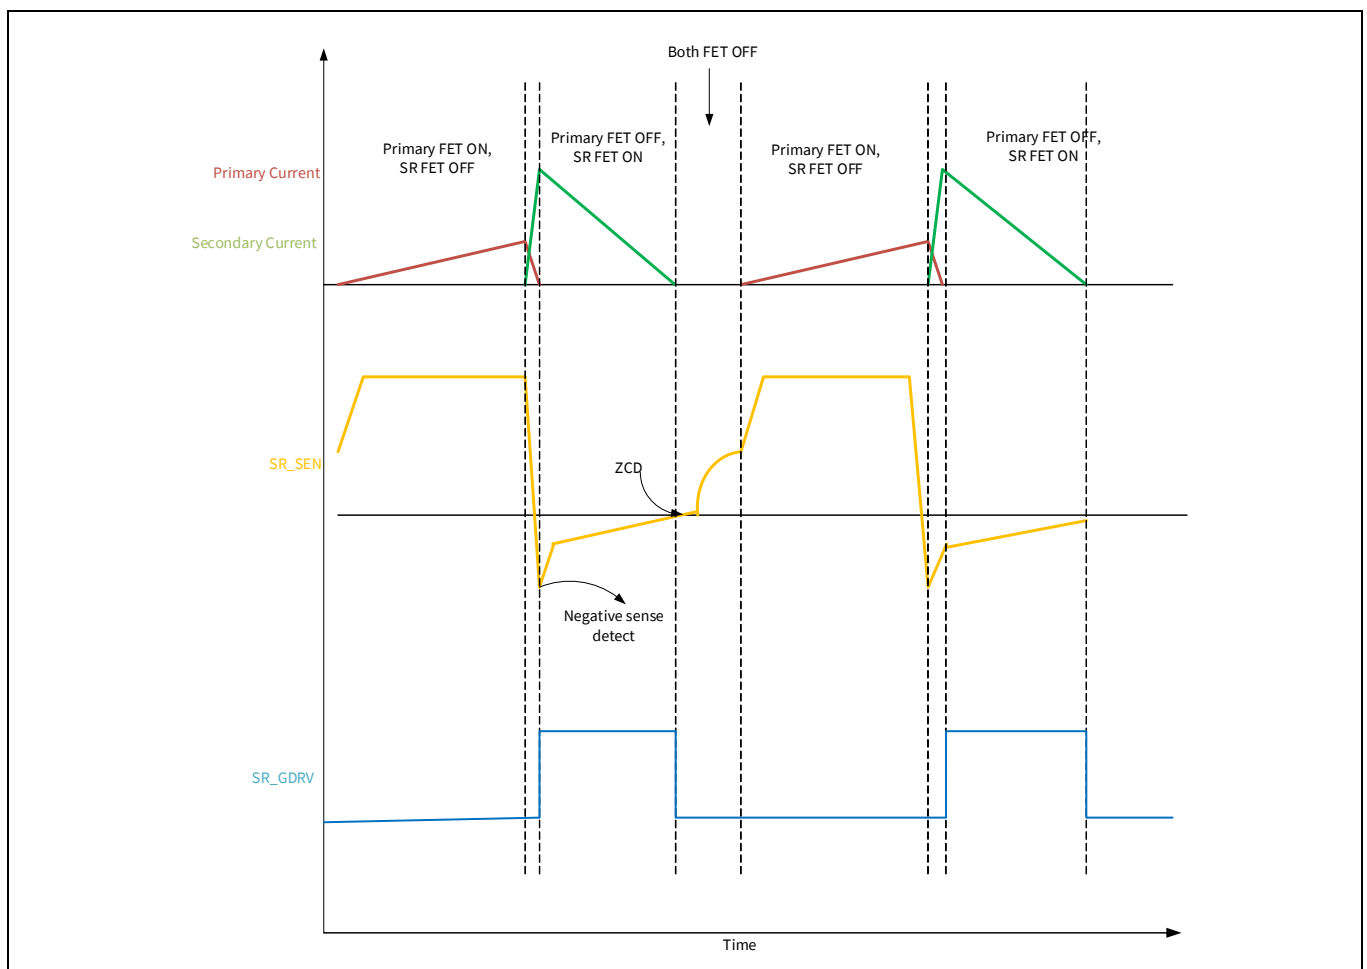
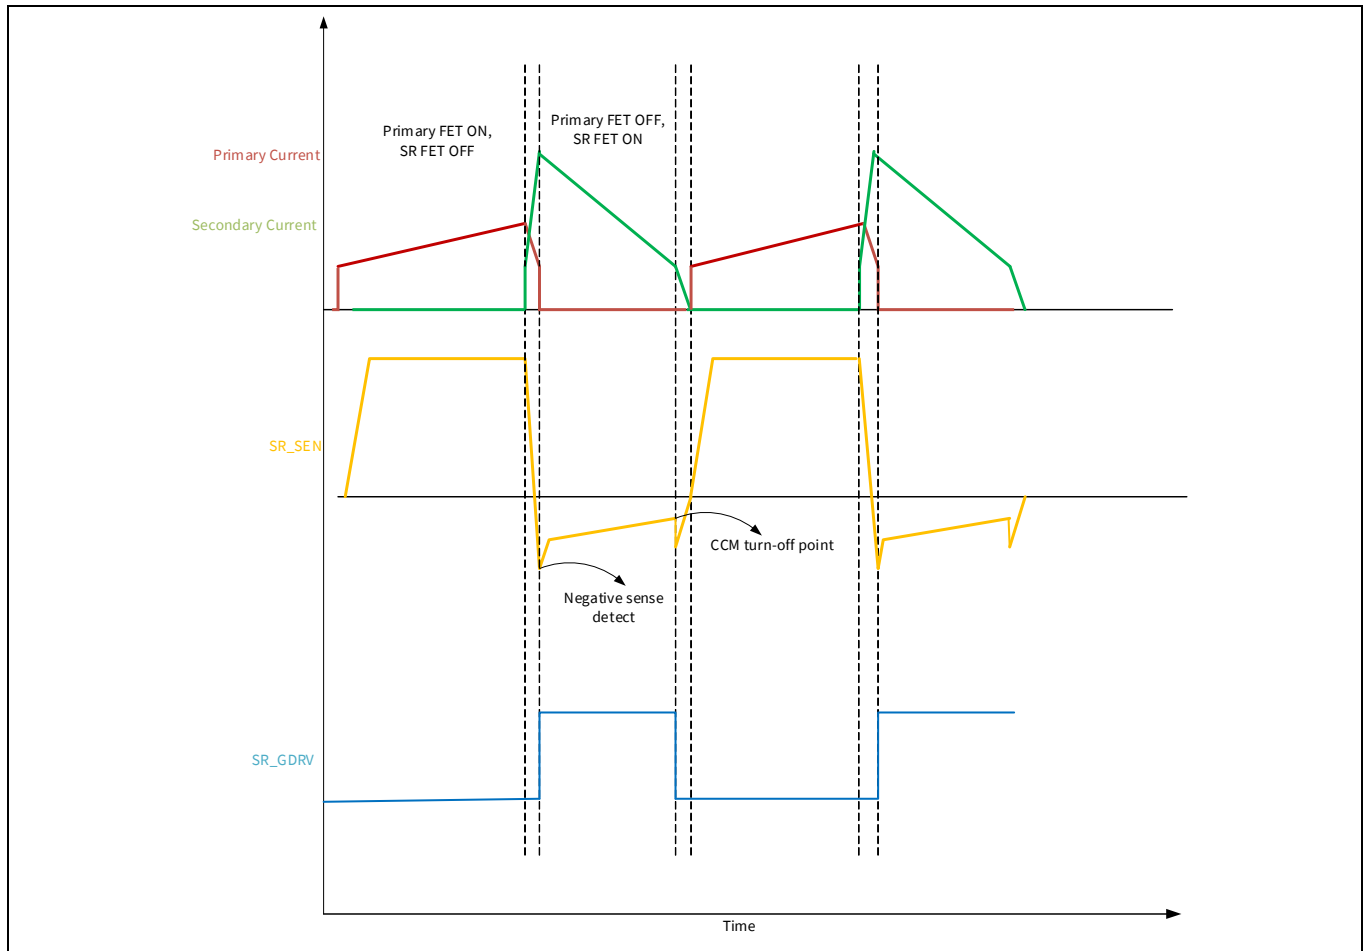

Figure 3 SR_SEN and SR_GDRV in QR/CrCM mode
Figure 5 SR_SEN and SR_GDRV in CCM mode
PAG2S-QZ supports synchronous rectification (SR) in both DCM and CCM modes. The SR sense block supports negative sense detect and ZCD. **Figure 3** through **Figure 5** show the SR_GDRV functionality in QR/CrCM, valley switching, and CCM modes. The SR controller has a turn-on propagation delay of 40 ns (typ) and a turn-off propagation delay of 25 ns (typ).